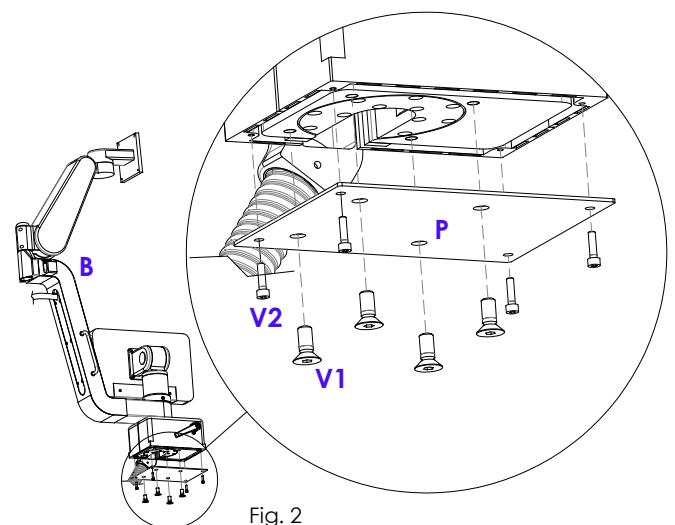

Fig. 2
- Dismantle the plate (**P**) (which will NOT be used anymore for the assembly of the arm) removing the 4 screws (**V1**) and the 4 screws (**V2**) (which will be used for the assembly of the arm). See fig.2.
It is recommended to carry out this operation with the arm being stretched as in Fig.2.